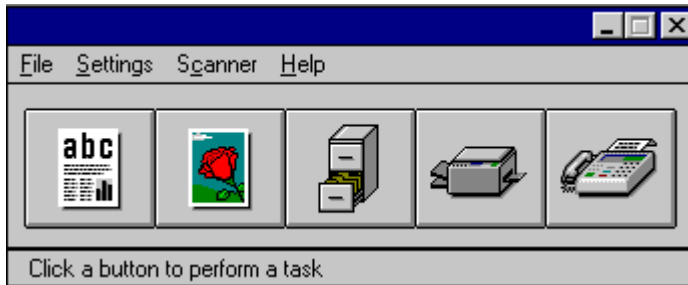
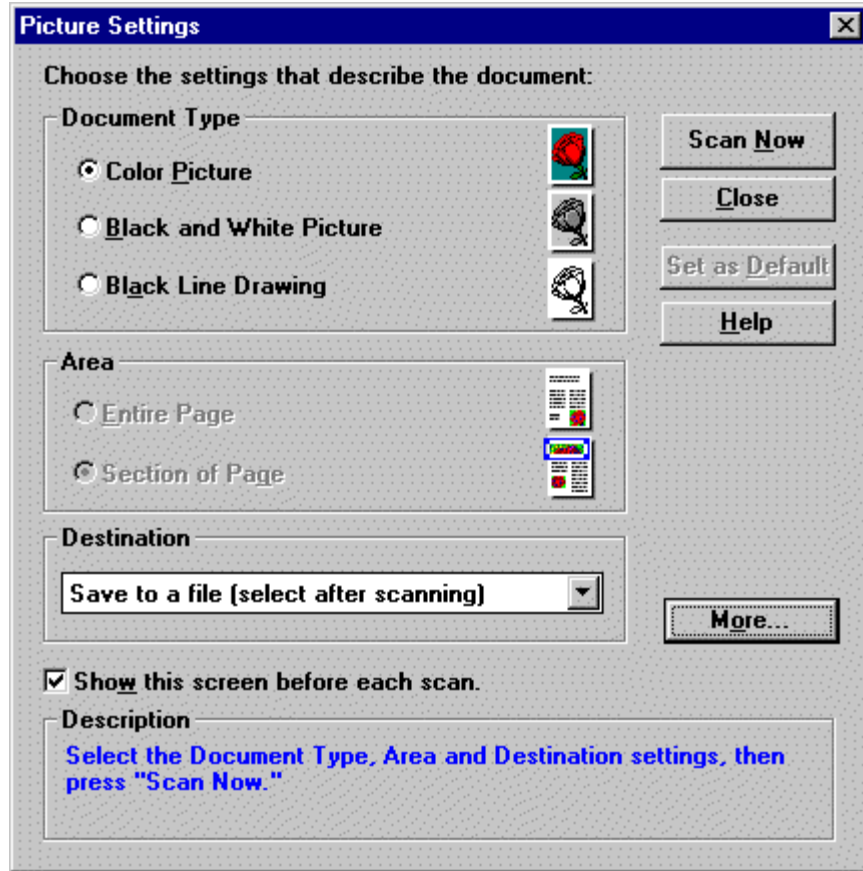

Figure 23 PageScan Scanner
Figure 24 Foto Touch
- Double-click on the **PageScan Control Center** icon to open a window similar to that shown in Figure 23.
- Click on the **Picture** icon as shown in Figure 23. This brings up a window similar to that shown in Figure 24.
- The PageScan Control Center will still be running as shown in Figure 23. Close it by clicking on the **X** in the upper right corner of the window.
- Insert 3 ½ " HDD floppy disk into the camera's disk drive as shown in Figure 24.